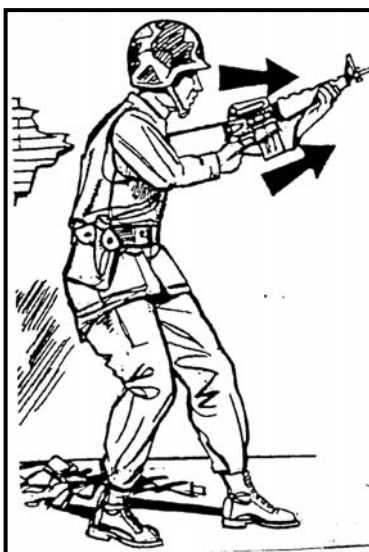

Figure 7-34. Weapon held at the high ready.
with the butt of the weapon firmly against his shoulder and the firing side elbow close against the body (Figures 7-34 and 7-35).
(2) **High Ready Position** (Figure 7-34). The butt of the weapon is held under the armpit, with the barrel pointed slightly up so that the top of the front sight post is just below the line of sight but still within the gunner's peripheral vision. The nonfiring hand grasps the handguards toward the front sling swivel, the trigger finger is outside of the trigger well, and the thumb of the firing hand is on the selector lever. To engage a target from the high ready, the gunner pushes the weapon forward as if to bayonet the target and brings the butt stock firmly against the shoulder as it slides up the body. This technique is best suited for the lineup outside of a building, room, or bunker entrance.